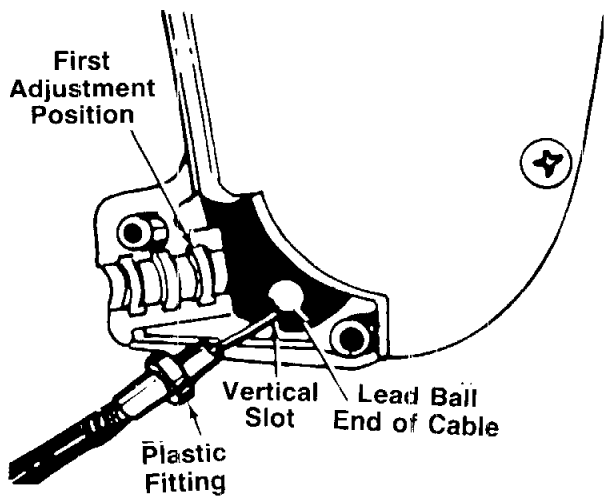

FIGURE 8.
1. Place the lead ball end of the cable into the fitting provided in the end of the clutch control lever. Slip the braided wire into the vertical slot as shown in figure 8.
3. Place the plastic fitting on the control cable into the first adjustment position in the clutch control housing. See figure 8.
When starting the unit for the first time, face the mower against a solid object such as a wall, fence, etc. Start the unit, and if it shows any signs of motion with the drive clutch control disengaged, shut the engine off immediately. Check the position of the drive clutch control cable. The plastic fitting must be assembled in the first adjustment position inside the housing, all the way to the right, as shown in figure 8.